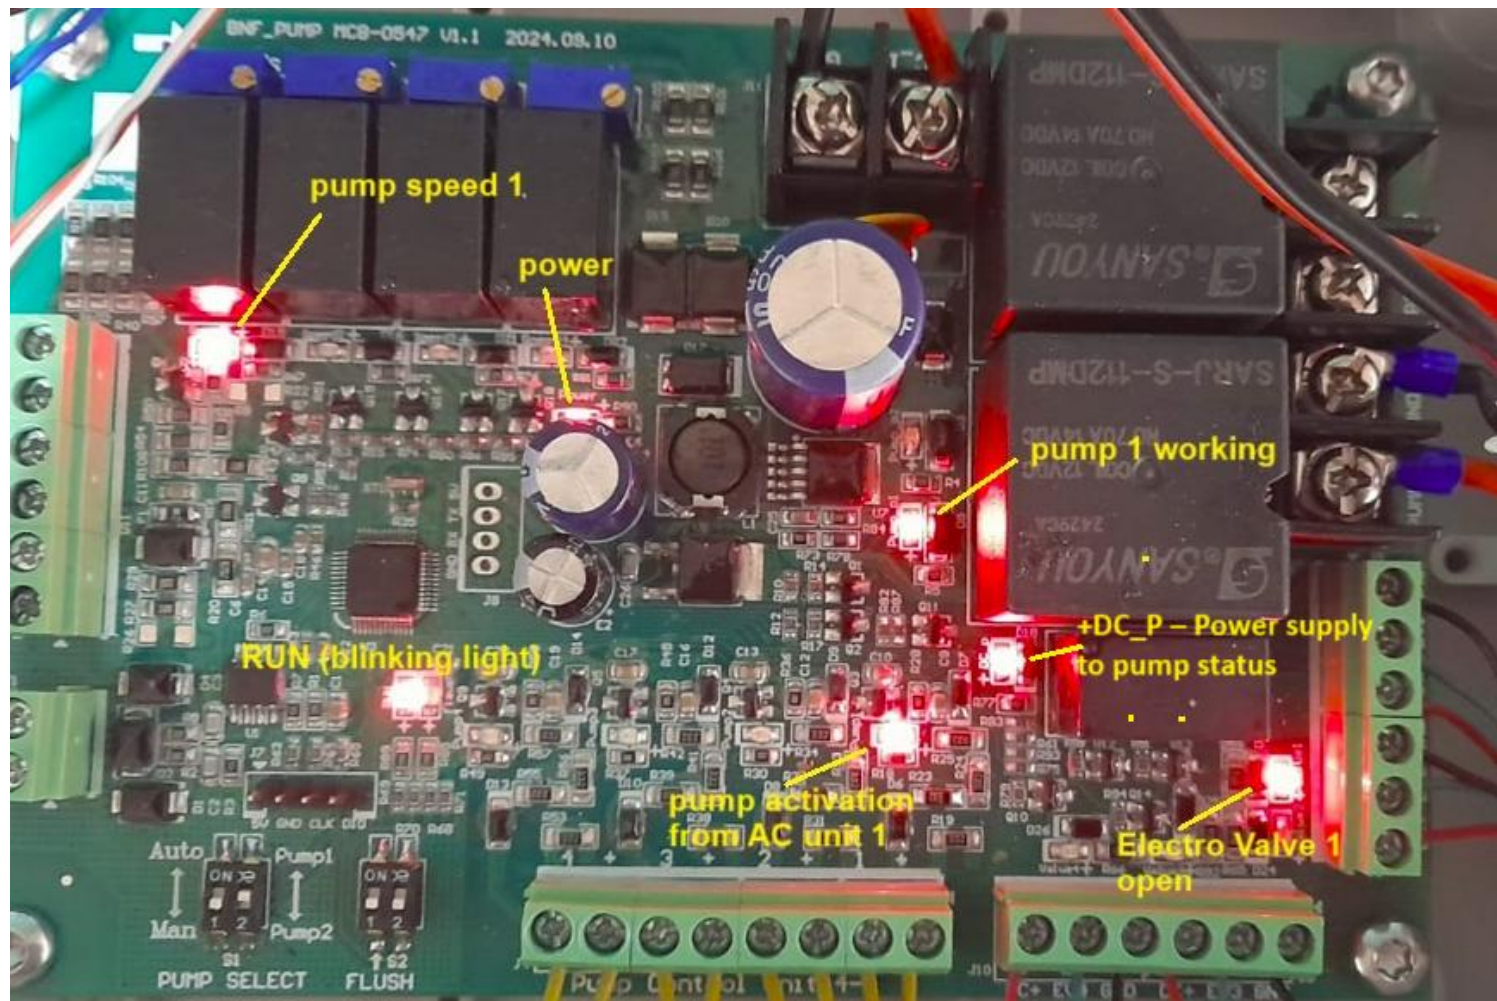

Figure 11: The PCB (control device) shows pump 1 operating at speed 1. This is because only AC unit 1 is currently active
- Figure 11: Pump 1 operating at Speed 1